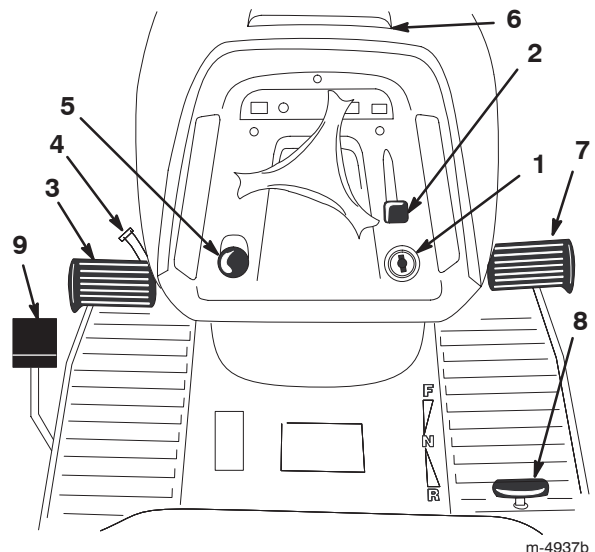

Figure 2
Become familiar with the controls (Fig. 2) before you start the engine and operate the tractor.
1. Push the brake pedal (Fig. 2) down and hold it.
2. Turn the parking brake lever (Fig. 2) counterclockwise and gradually take your foot off the brake pedal.
1. Push down on the brake pedal (Fig. 2).